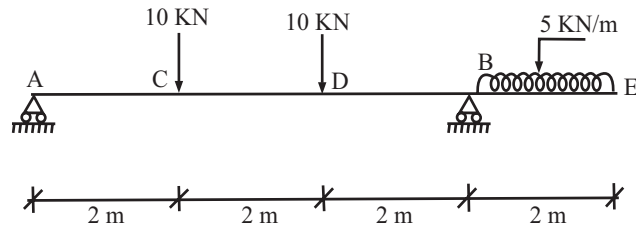

Fig 8
Q.8. Draw the shear force and BM diagram for the beam shown in fig 8. (Dec-03)